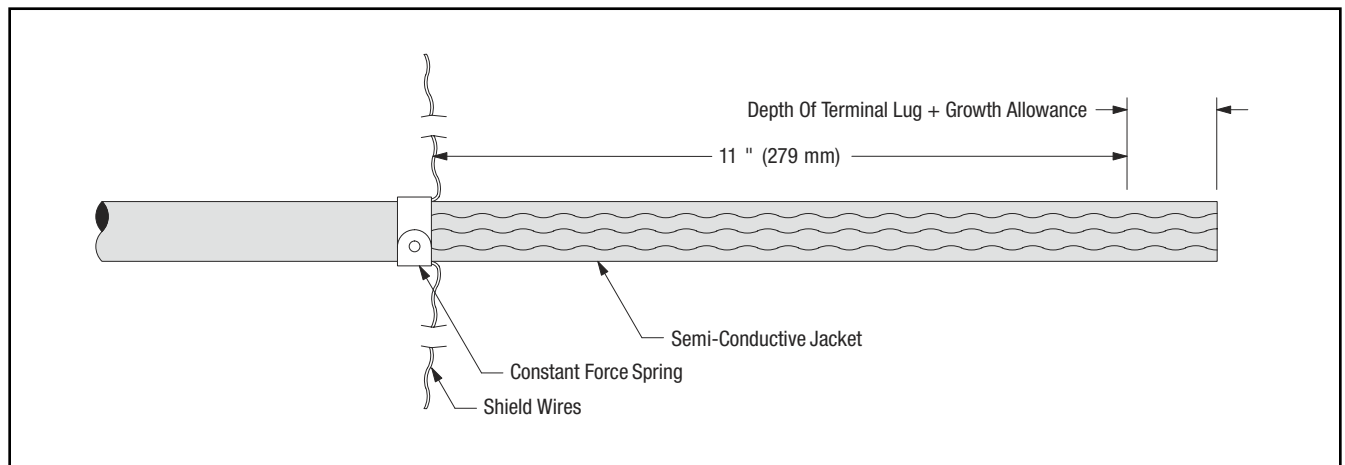

Figure 16
11.2 Prepare cable using dimensions shown in *Figure 16*. **BE SURE TO ALLOW FOR DEPTH OF TERMINAL LUG.**
11.3 Install constant force spring as shown in *Figure 16*. Pull shield wires through semi-conductive jacket to leading edge of constant force spring (*Figure 16*).